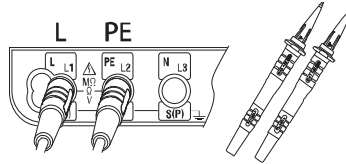

Fig. 50
2. Insert the Test Leads into the instrument. (Fig.50)